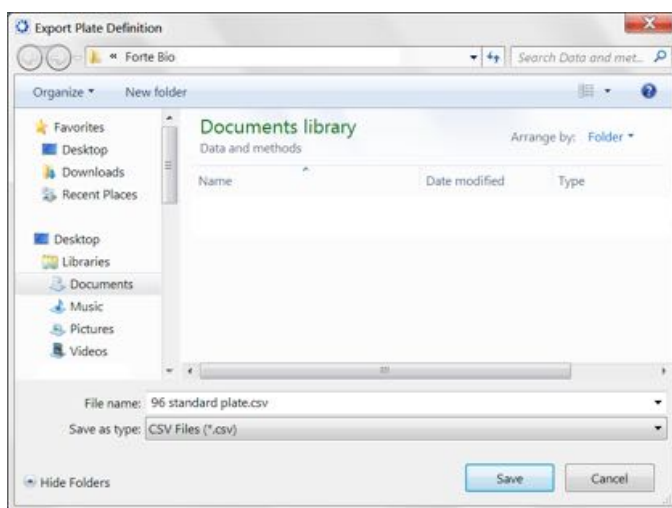

Figure 6-22: Export Plate Definition Window
2. In the **Export Plate Definition** window (see Figure 6-22), select a folder, enter a name for the plate (.csv), and click **Save**.